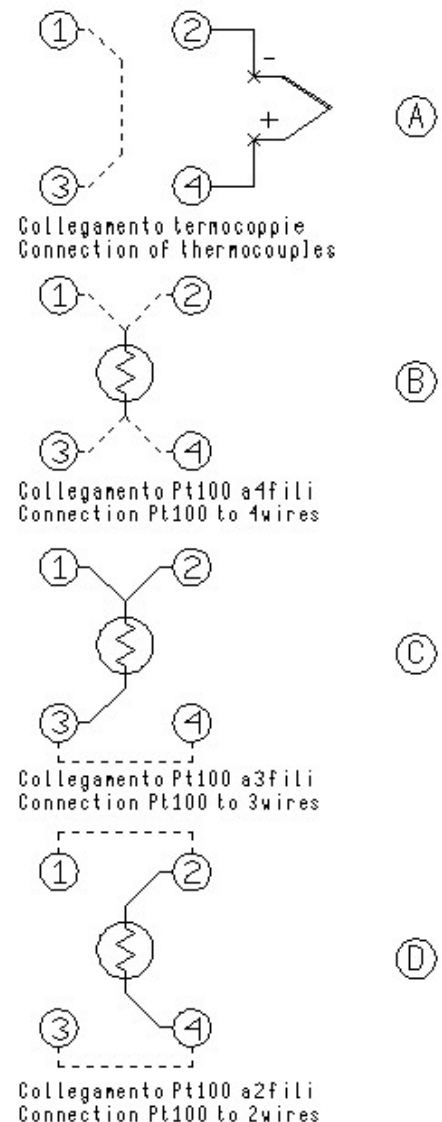

Fig. 7
- Connect the probe's wires to the clamps (15) as it is indicated in the figures.
- ◊ Thermocouple – connect the wires to the clamps 2-4 to make attention to the polarity; connect the clamps 1-3 as indicated. Reference to figure 7-A and select the thermocouple.
- ◊ Pt100 to 4 wires – connect the clamps 1-2-3-4 as indicated in figure 7-B and select Pt100.
- ◊ Pt100 to 3 wires – connect the wires to clamps 1-2-3; connect the clamps 3-4 and select Pt100 3W. Reference to figure 7-C
- ◊ Pt100 to 2 wires – connect the wires to clamps 2-4; connect the clamps 1-2 & 3-4; select Pt100. In case of two wires connections remembers to us shortest wires possible. Refer to figure 7-D